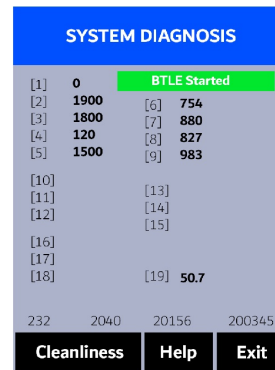

Figure 8.
Press **Diagnosis** (<) to launch the **SYSTEM DIAGNOSIS** screen where raw measurement data are displayed (Figure 8). The information has no use for normal operation, but instead is used for device troubleshooting. Provide an image of both the **DEVICE INFORMATION** screen and the **SYSTEM DIAGNOSIS** screen when you contact Pyxis (service@pyxis-lab.com) for troubleshooting your device or call +1 (866) 203-8397.
4. Allow 5–10 seconds for the message in the top-right corner of the display change from **Starting BTLE...** to **BTLE Started** (Figure 8).